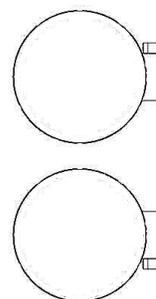

FIGURE 3
8. Unscrew the remaining hose clamps and feed the tail end of the clamp through the clips on the inside of the heatshields, the larger clamps go to the rear of the heatshields where they will rest on the muffler bodies, smaller ones to the front for the headpipes. The screw end of the hose clamp should be accessible for tightening but not visible when heatshields are mounted to the pipes, see Figure 3.